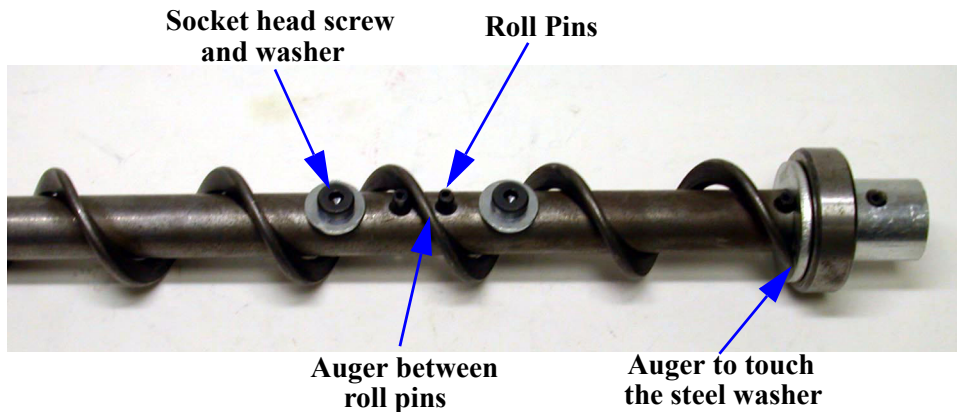

Figure 56. Auger and anchor Bearing Connection
1. Insert the anchor assembly into the auger until it touches the washer at the back of the anchor. Tighten the setscrews in the center of the anchor until they touch the auger, then tighten a maximum of 1/2 turn. See Figure 56.